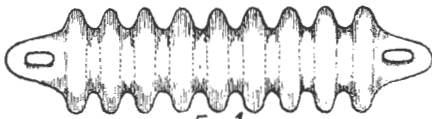
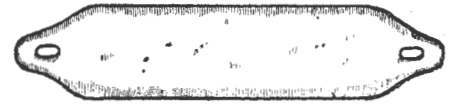

FIG 1.
FIG 2.
and if it is brittle, it will be a good idea to replace it with new wire. Look at the insulators, that will no doubt be covered with dirt. Clean them off thoroughly, and if any are cracked, they should be replaced with good ones. The longer the surface of the insulator the better. An insulator 6 inches long and grooved as shown in Figure 1 will have much more surface than an 8 inch one as shown in Figure 2. By actual measurement, a 12 inch insulator has a leakage surface of  $17\frac{1}{2}$  inches. If you have any splices in the aerial, it would be a good plan to examine them now, for while it may have seemed to good joint then, it may not have been. While looking over your aerial you might as well give your ground wire and connections a close examination. If you are using a clamp, take it off
**G. M. H. (Singleton).** Q.: What size coils would be required to receive 2FC, using circuits shown in Figs. 1, 3 and 4, *Radio*, No. 39? A.: Fig. 1: Coils should be 150, 200 and 100. Fig. 3: 150, 200, and coils C and D, approximately 200 each. Fig. 4: 150, 200 and 100. Q.: Would two .001 condensers be satisfactory instead of those specified? A.: Yes, one for the aerial circuit, but would be too large for tuning the other coils. Using this condenser in the primary you will probably only need a 100-turn coil. As sizes of coils given depend upon the size of aerial and condensers used, the best method is to obtain additional coils slightly smaller and larger than those specified and select suitable coils for the desired wave-length. Q.: Would an ordinary medical induction coil with iron core do in circuit as per Fig. 4? A.: No. Q.: What B battery voltage does a Cossar valve require? A.: We do not know. Q.: Would you recommend Fig. 4 for this district? A.: Yes.